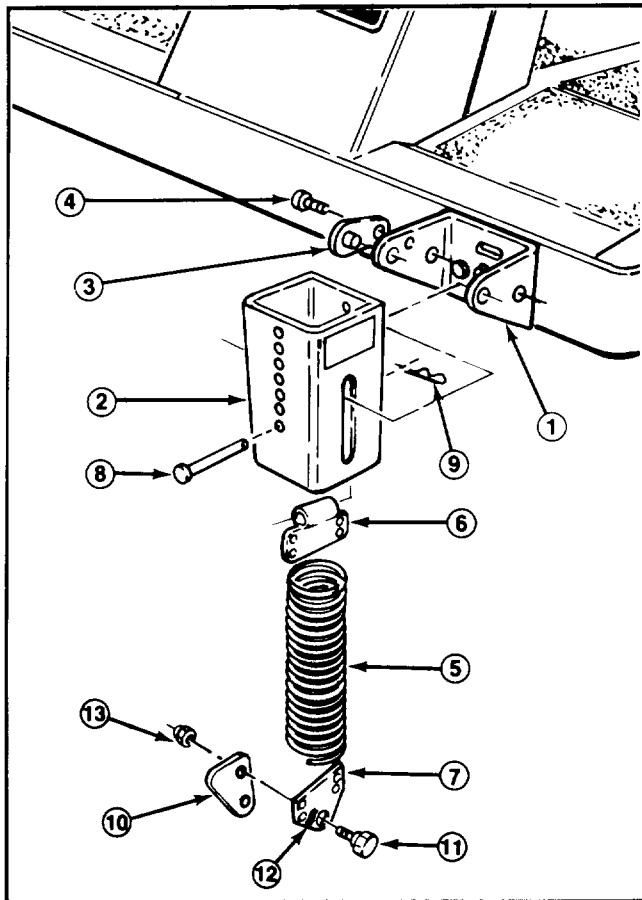

Figure 10
2. Thread the top extension spring coil into the top spring end holes and the bottom extension spring coil into the bottom spring end holes (Fig. 10).
3. Mount knee link to lower spring end with wide part of knee link pointing forward and spring end stop pointing forward. Secure knee link to outer side of spring end with a shoulder bolt and locknut (Fig. 10, 11).
5. Align slotted holes in the spring cover (slot toward the bottom) with the mounting bracket holes. Insert lock pin assemblies into the bracket holes and secure each to the bracket with self-tapping screws (Fig. 10). Torque the screws to 20 ft-lb.
6. From the bottom, insert the spring and top spring end into the spring covers. Select a hole that matches the cutter deck height-of-cut hole setting; i.e., top cover hole matches highest height setting, bottom cover hole the lowest, etc. Align the top spring end hole with the selected spring cover holes and insert the clevis pin to secure the spring inside the cover (Fig. 10). Secure the clevis pin with the hair pin cotter (Fig. 10).